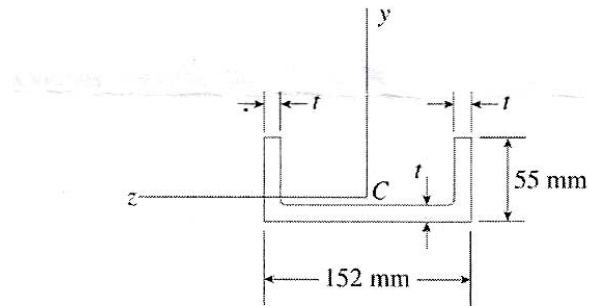

Figure 7b
7.a. State the assumption in theory of simple bending and derive the flexure formula. (8)
b. A beam having a cross section in the form of channel (see figure 7b) is subjected to a bending moment acting about the axis. calculate the thickness of the channel in order that the bending stresses at the top and bottom of the beam will be in the ratio 7:3, respectively. (8)